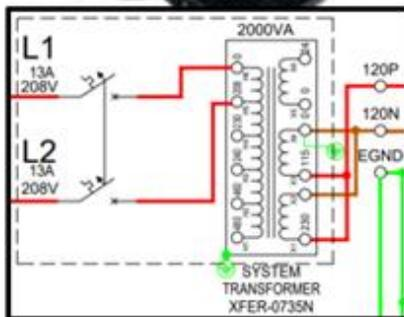

Figure 3-2: System Transformer
- The primary of the transformer (the side connected directly to the building supply) must be configured to the building voltage. Refer to Figure 3-2 below.
- The secondary of the transformer must be configured to output 120VAC. Refer to Figure 3-2 below.